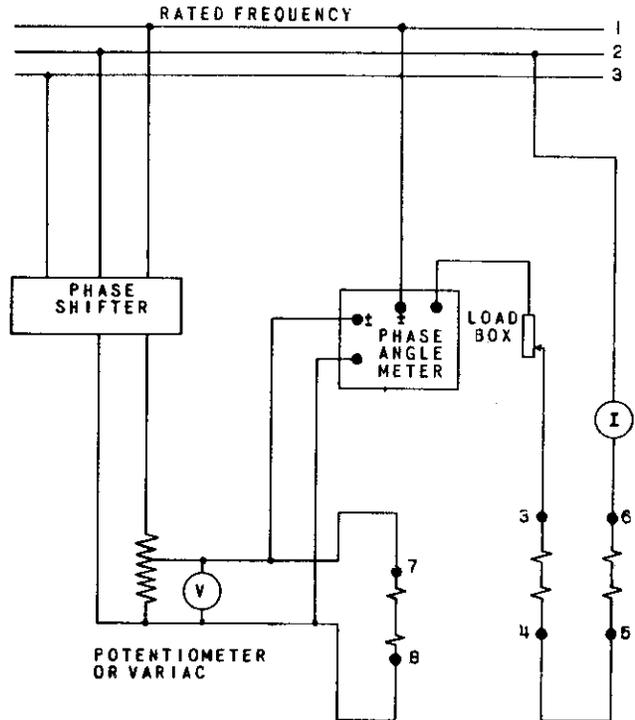

Fig. 6 Test Connections for Type CEH11A Relay
1. Connect as shown in Fig. 6. Allow relay potential coils to warm up by energizing at rated voltage for 15 minutes prior to testing.